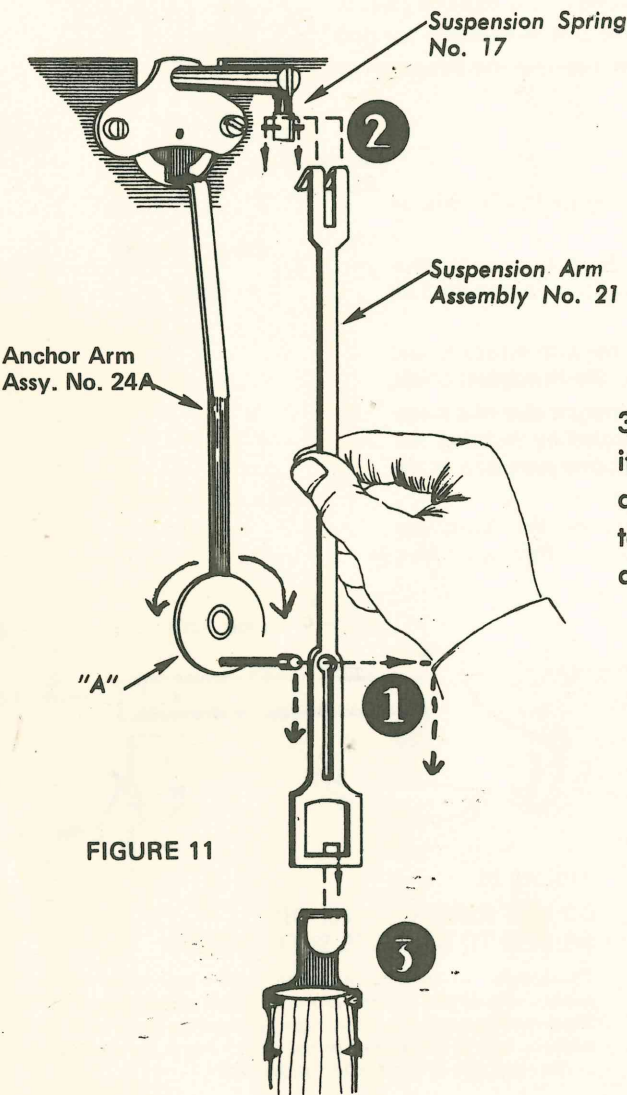

FIGURE 11
- d. The knurled nut "A" on the anchor arm assembly is movable and should be in the position as shown in Fig. 11. The pin should be in a line vertical to the anchor assembly arm.